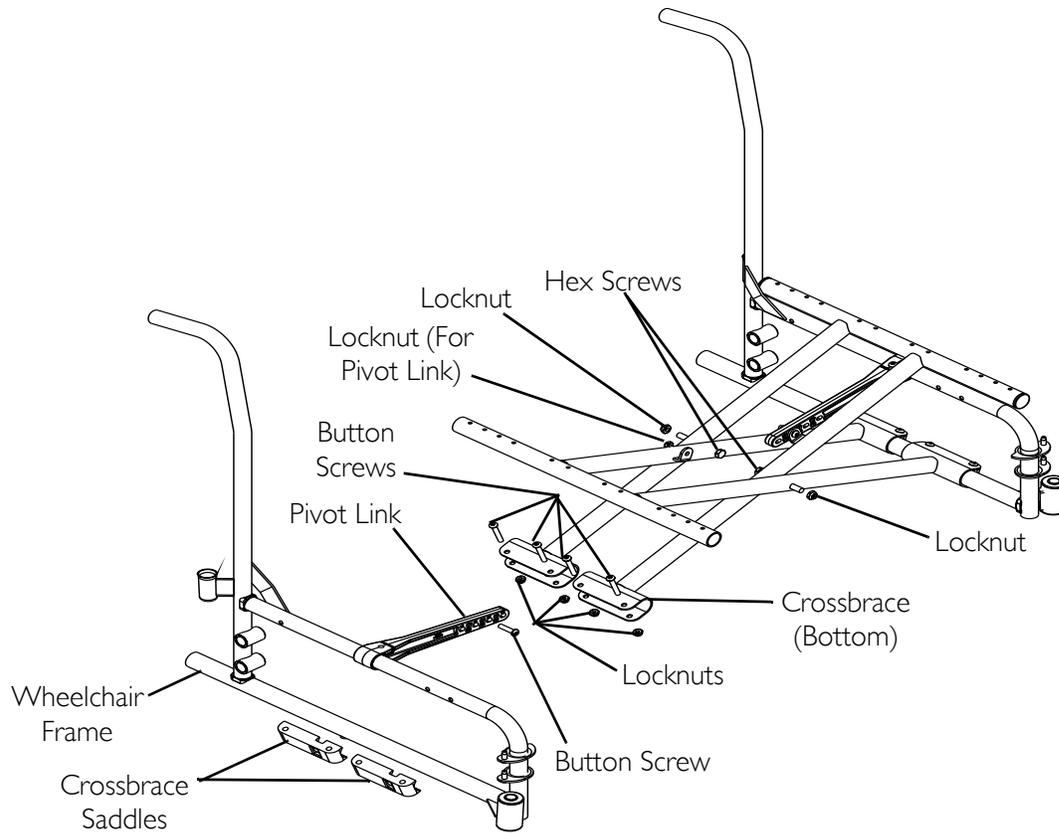

FIGURE 6.8 Heavy Duty Wheelchairs
NOTE: For this procedure, refer to FIGURE 6.7 and FIGURE 6.8 on page 46.
6. Assemble the two new crossbraces together with the existing two hex screws and locknuts (FIGURE 6.8 on page 46). Securely tighten.
NOTE: Position the rear crossbrace saddles on wheelchair frame using the washer on the underside of the wheelchair frame as a reference. Refer to FIGURE 6.8 on page 46 for proper positioning of the crossbrace saddle.